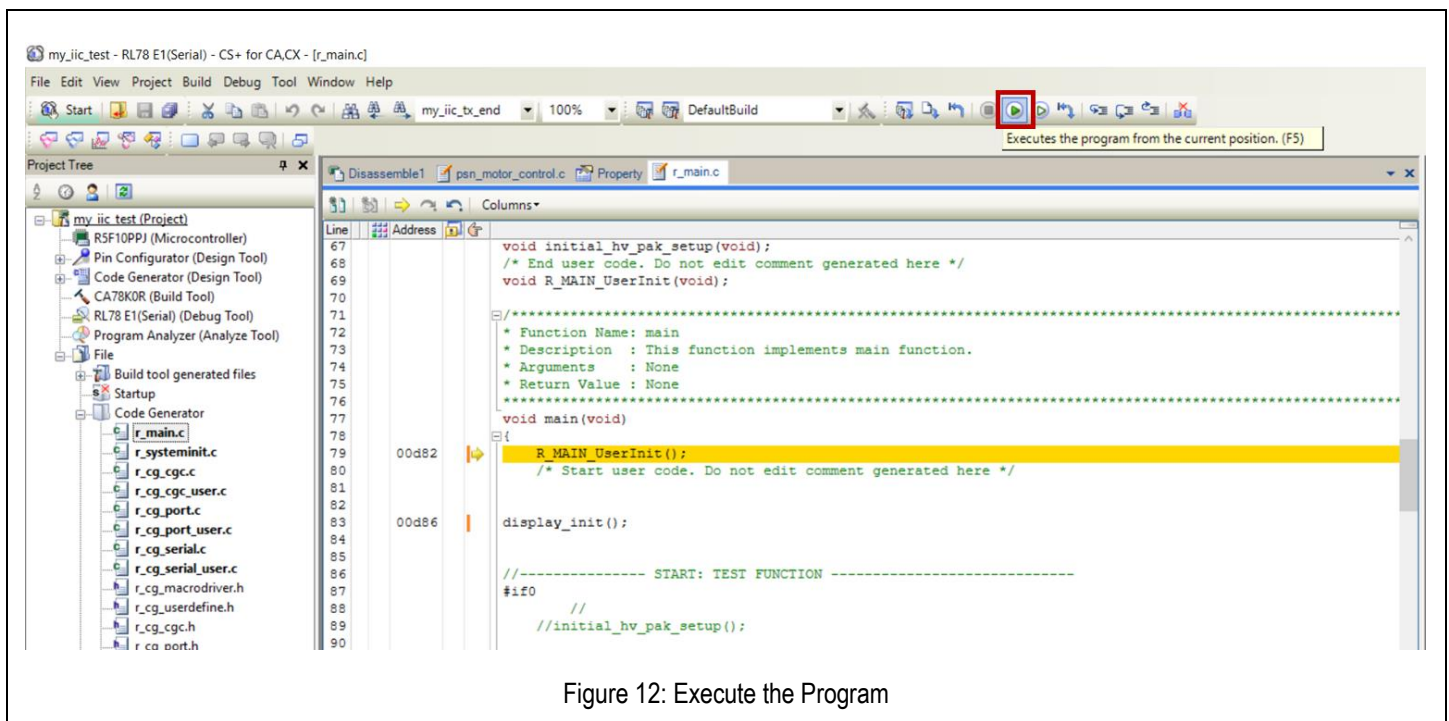

Figure 12: Execute the Program
4. Once the download is completed click on Execute command as highlighted in Figure:12.